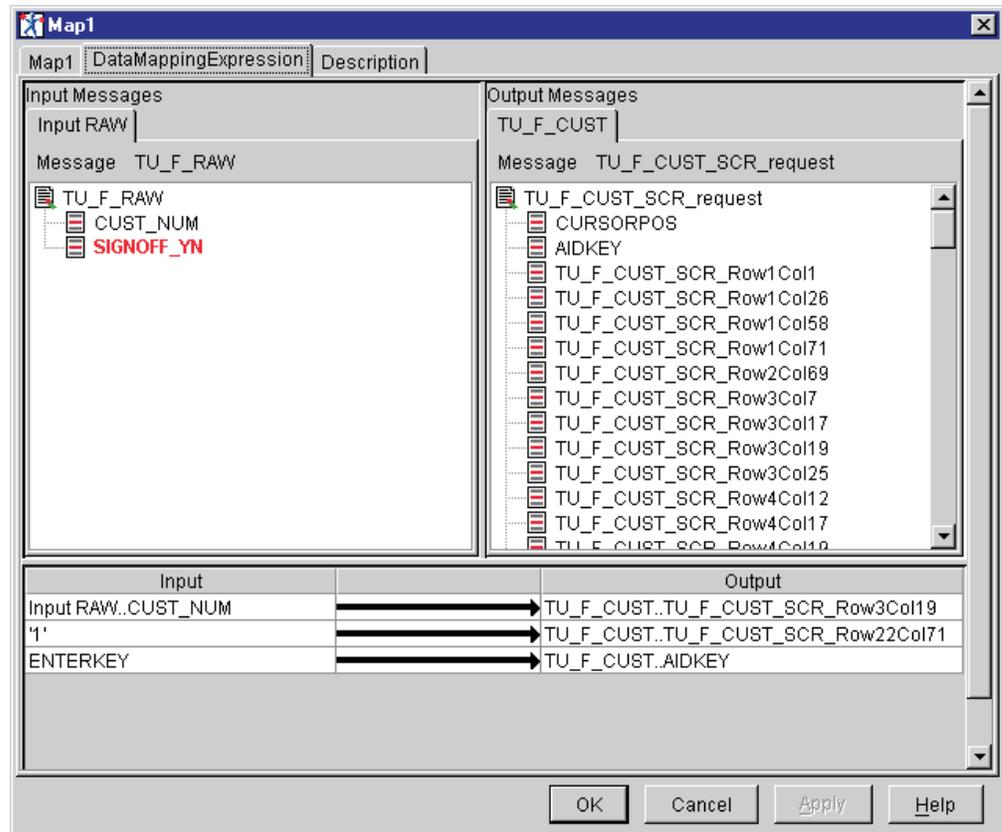

Figure 132. Mapping for Map1 node
- 1) Perform the mapping for the Map1 node as listed in Table 59 and shown in Figure 132 on page 173. This map sets the customer number field from the Customer screen to the customer number from the Input RAW record, hard codes a '1' for an Inquiry transaction and passes along the ENTERKEY.